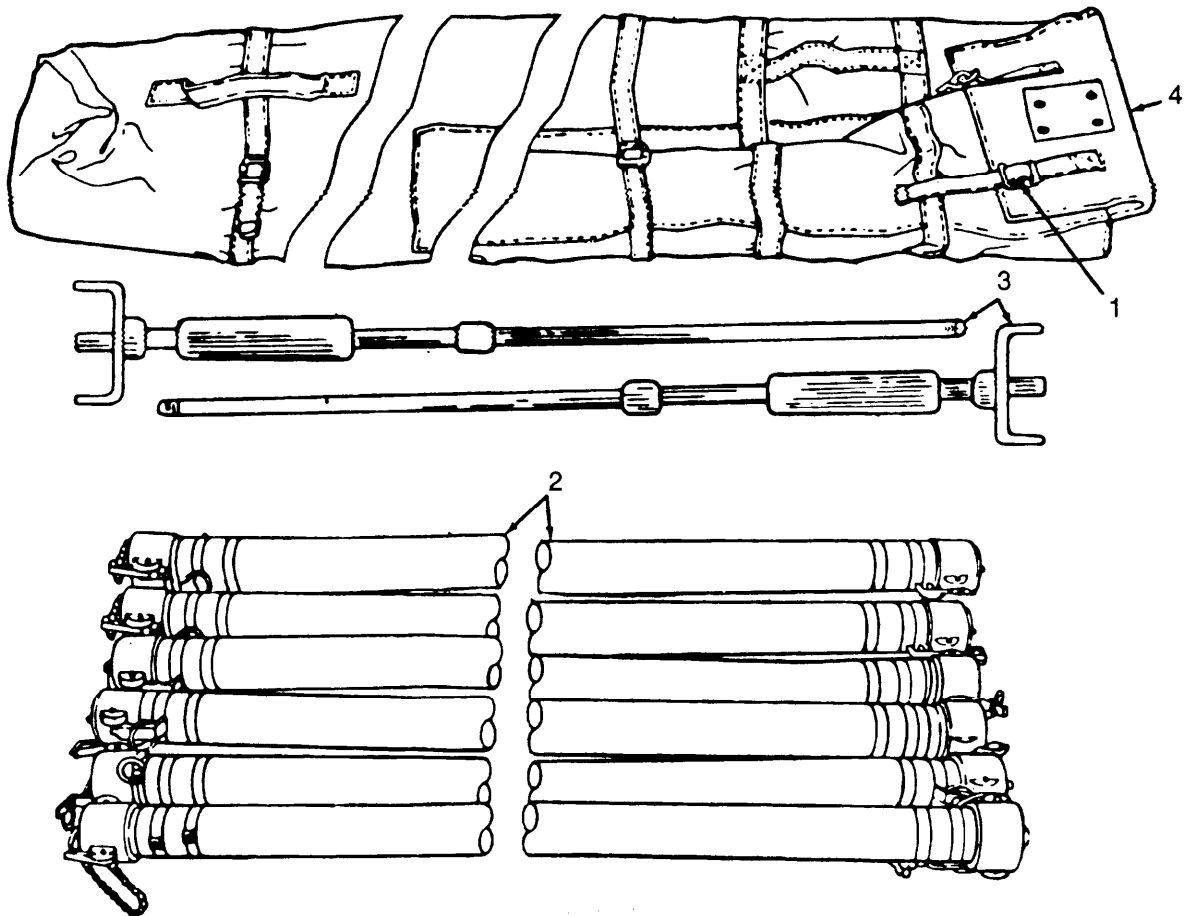

Figure 4-2. Suction Hoses, Ground Rod, and Container, Removal/Installation.
- a. Removal. (Refer to Figure 4-2)
- (1) Unbuckle two straps (1) and open flap.
- (2) Remove six suction hoses (2) and two ground rods (3).